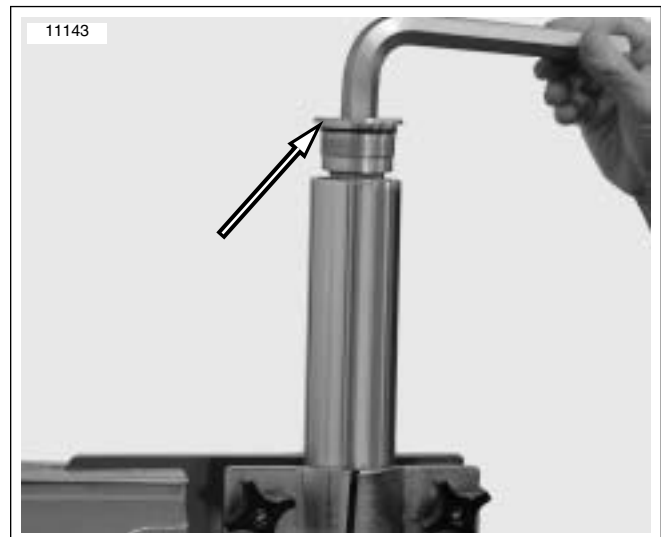

Figure 2-115. Clamp Fork and Remove Fork Cap
1. See Figure 2-115. Using FORK TUBE HOLDER (HD-41177), mount fork assembly in vise.